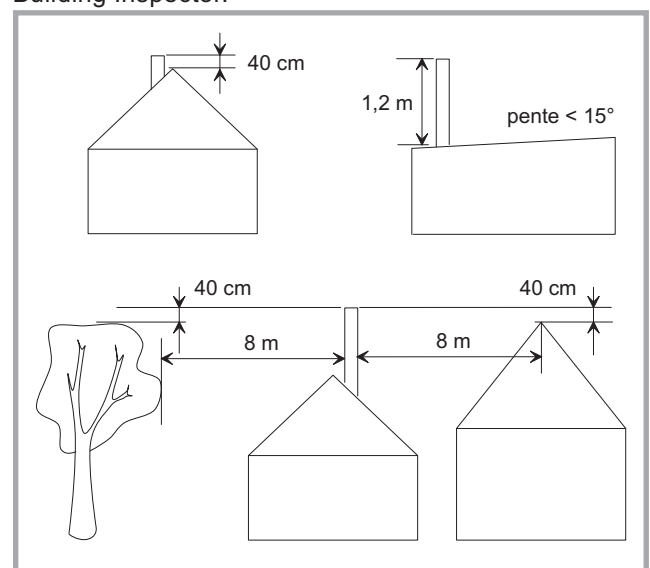

Figure 3 - Flue upper section height
- The chimney must be at least 4.5 m (15 ft) high and be at 40 cm above the ridge of the roof and 8 meters away from any construction (fig. 3).
- In case of a flat roof or when the roof gradient is lower than 15°, the stack must be 1,2 m (4 feet) high at least (fig. 3).